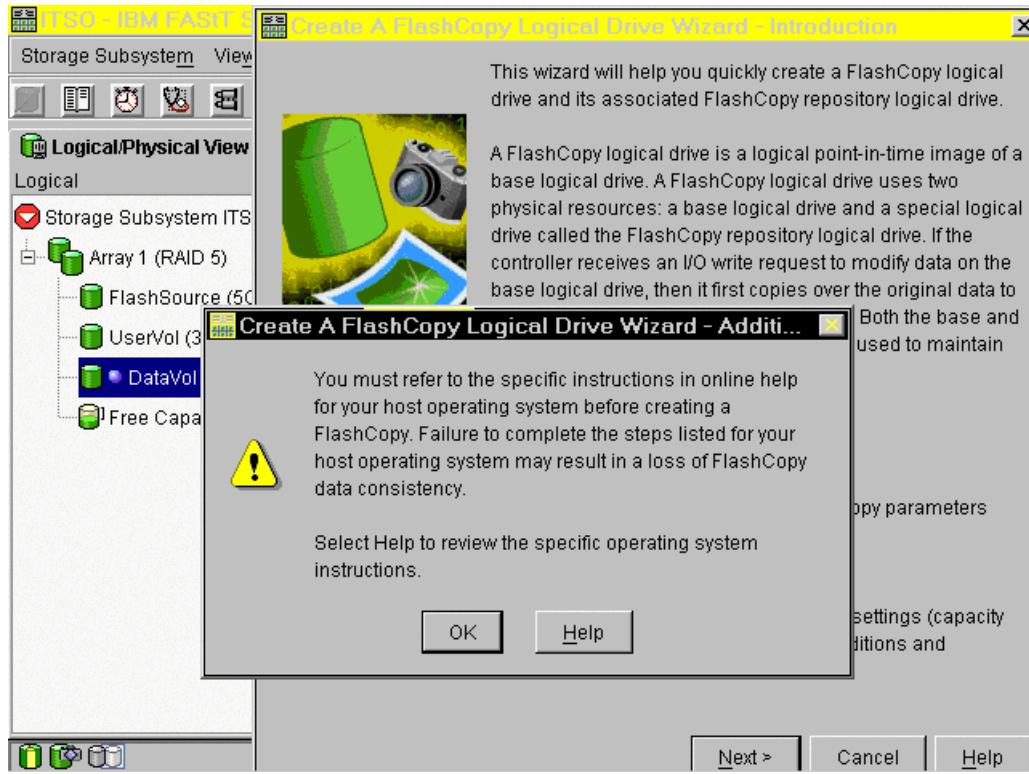

Figure 5-9 Create FlashCopy Logical Drive Wizard startup
The Create FlashCopy Logical Drive Wizard begins as shown in Figure 5-9.
- Review the information on the initial window as shown in Figure 5-9. Click **OK** to proceed to the wizard introduction window.